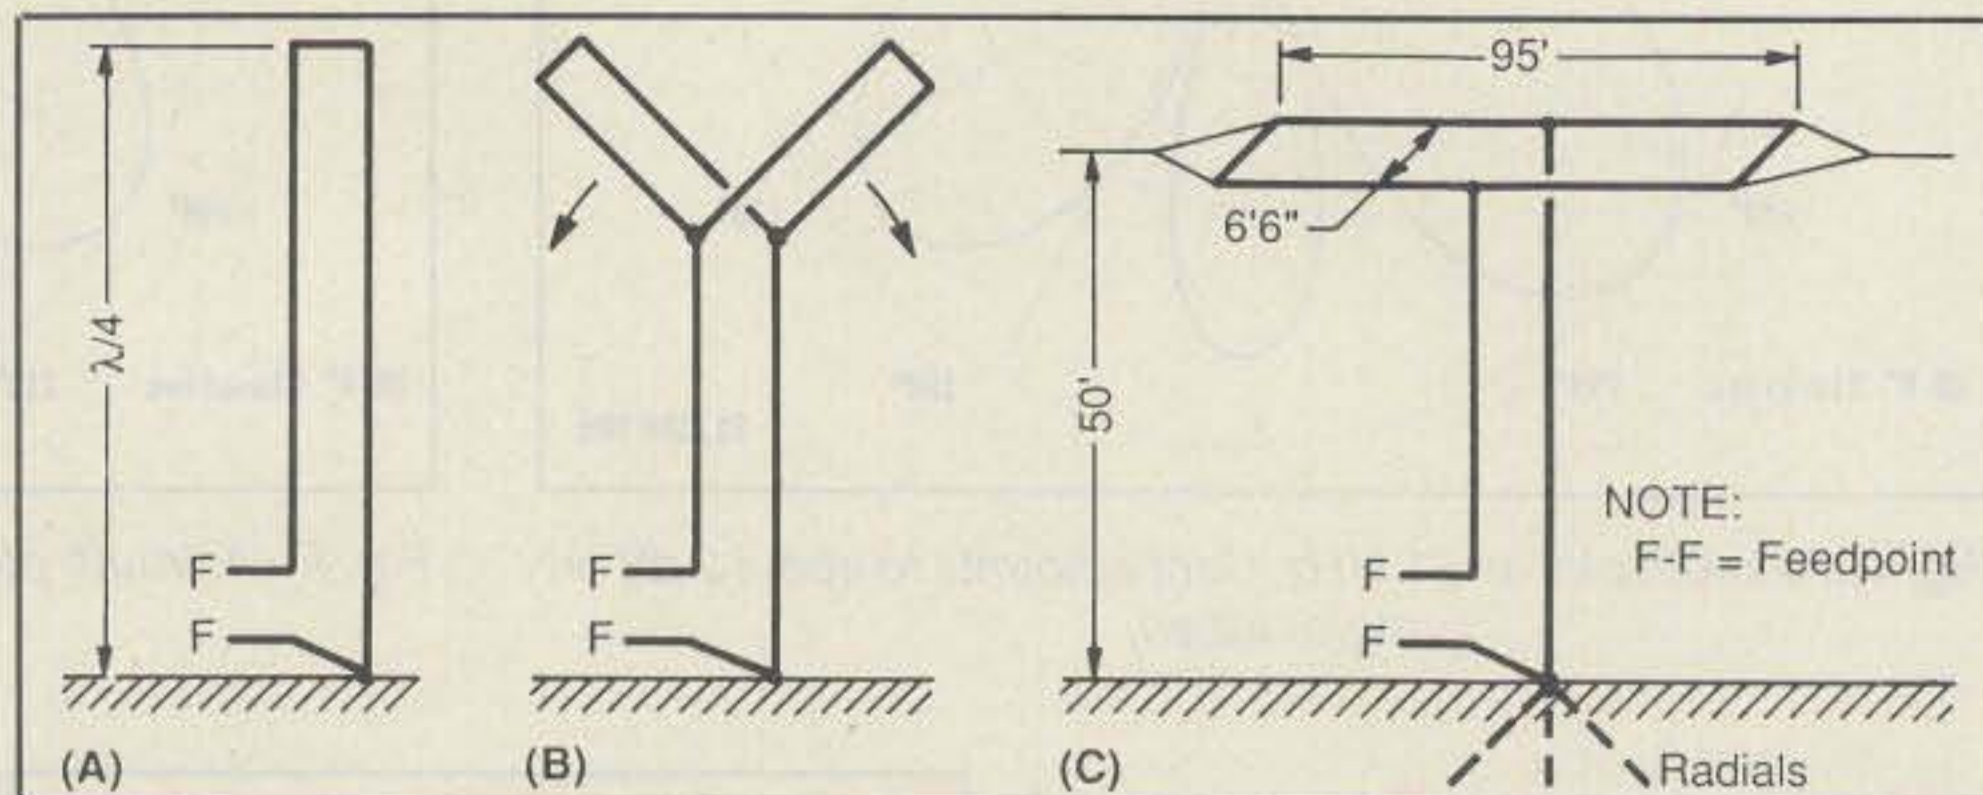

Fig. 8- (A) Folded monopole antenna. (B) Top portion divided into "T" configuration. (C) Dimensions from 1.85 MHz folded "T" antenna.
Writing in the August 1992 issue of *Radio Communications*, a publication of the Radio Society of Great Britain, Pat Hawker's Technical Topics column discusses an interesting low-band antenna. The information comes from Tony Preedy, A45ZZ/G3LNP (Sultinate of Oman). The design was first proposed for use in Saudi-Arabia to enable MF transmitters to be tuned rapidly to various frequencies and was used during the 1991 Middle East conflict. The derivation is shown in fig. 8. It is based upon the folded monopole concept (A) and provides a convenient impedance step up to match a 50 ohm feed system (B and C). A height of about 0.1 wavelength is suggested.